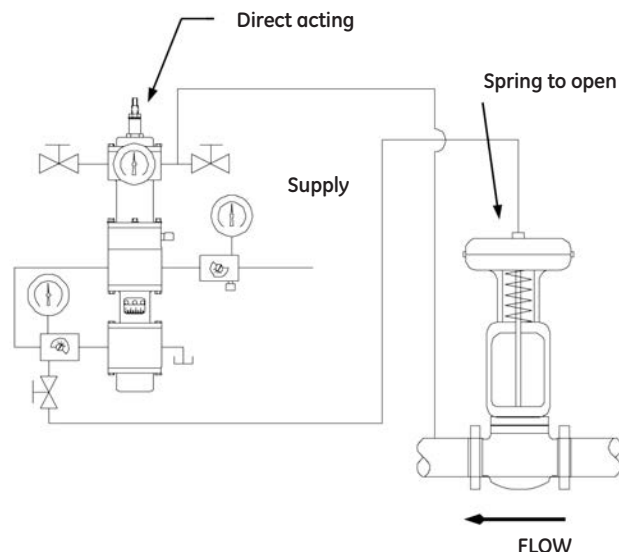

Figure 7
Step 6b: Turn the adjusting screw clockwise until the output gauge just rises. (Refer to Figure 7)